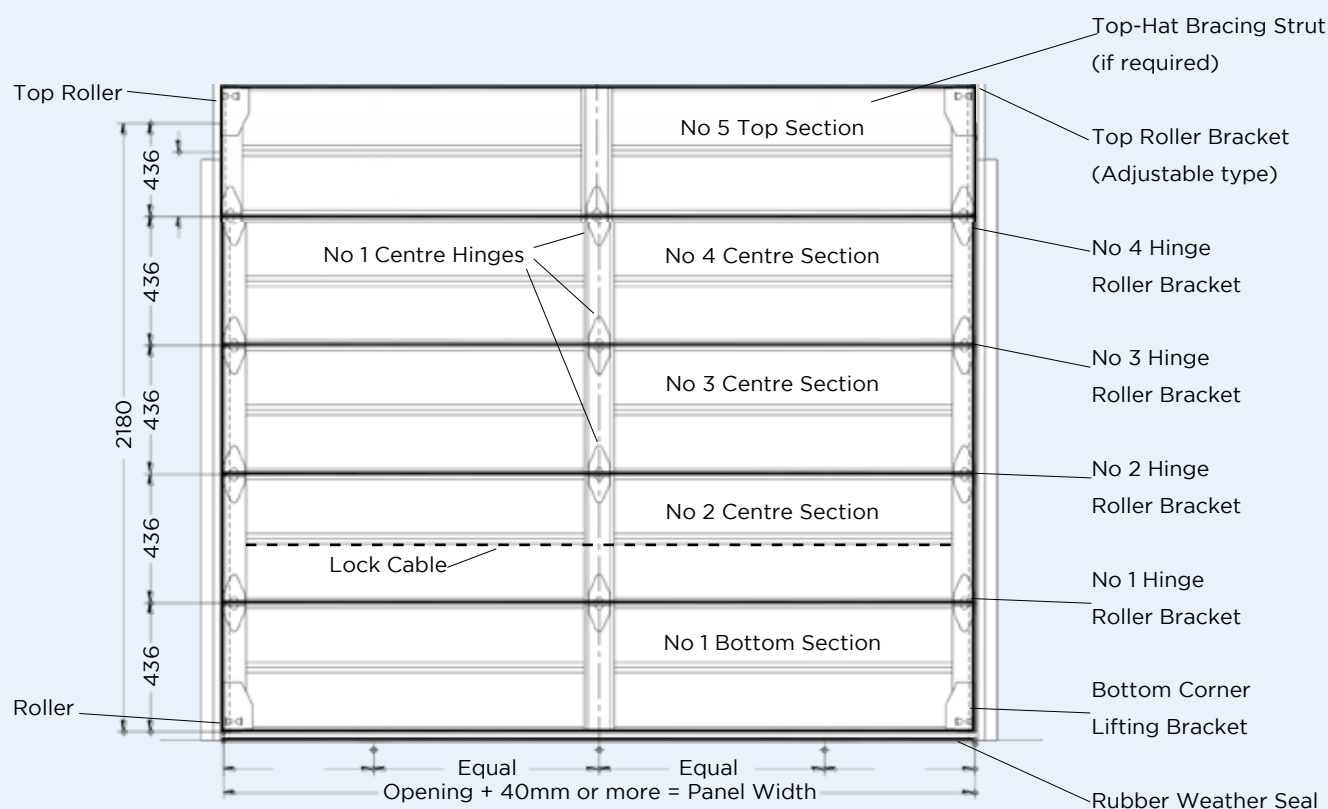

FIG 6.
1. Fix the No.2 Roller Hinges in place (see Fig.6).
2. Fix the Centre Hinges (same as the No.1 Hinges) to the No.2 Section as shown (Fig.6 & 22).
See Fig.6 for the general layout of all the fittings on the door.